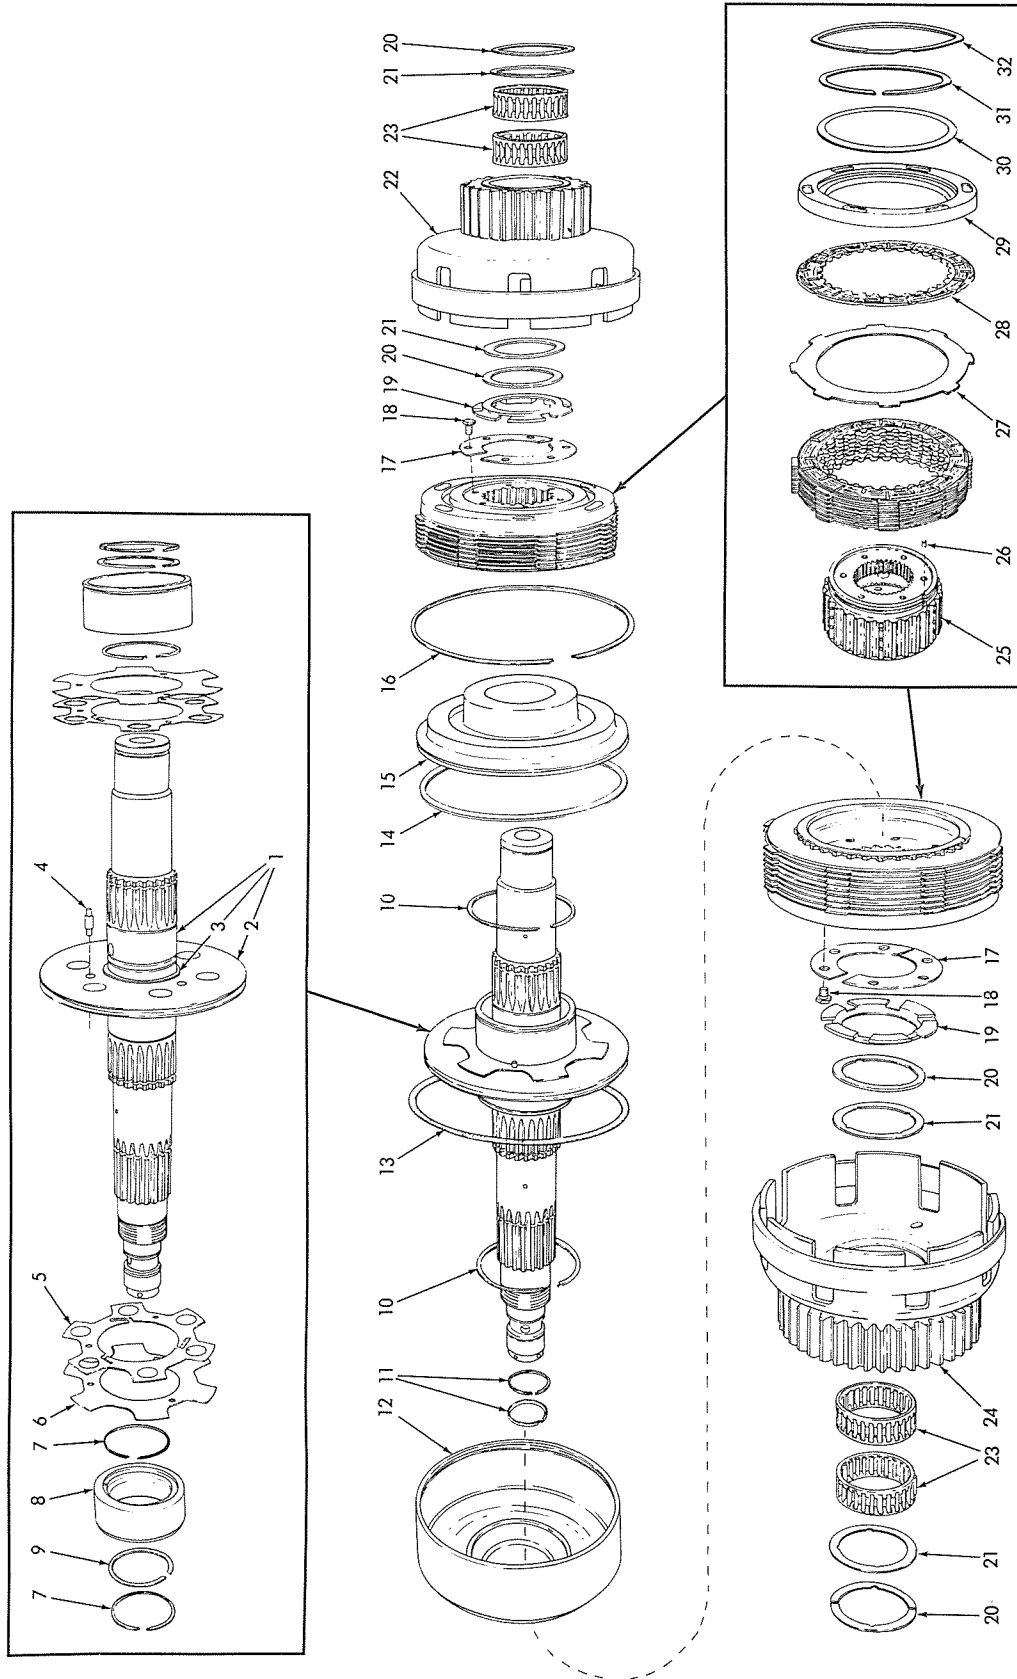

FIG. 44 CLUTCH SHAFT ( T - 72362 )
- j. Remove clutch hub back plate snap ring and clutch hub snap ring, Figs. 42 and 43; remove locking pin retainer, Fig. 44 (30) back plate (29), and locking pin (26). Remove friction plates from clutch hub. Do not attempt to remove spring retainer from clutch hub.
- b. Install O-ring, Fig. 44 (13) in separator plate.
- c. Install valve disc (6) and backing disc (5) on each side of separator plate, in position on separator plate dowel pins.
### LEGEND FOR FIG. 44
- j. Install clutch hub back plate, Fig. 44 (29) (flat side against friction plates) on clutch hub; align locking pin grooves in clutch hub and back plate; install locking pin (26).
- k. Install locking pin retainer, Fig. 44 (30), clutch hub snap ring (31), and clutch hub back plate snap ring (32).